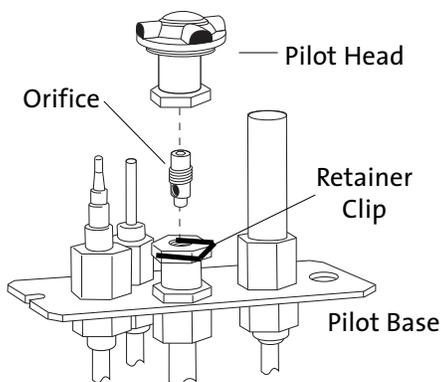

Figure 20. Pilot orifice removal and replacement.
- 8 CHANGE THE PILOT ORIFICE: From within the firebox, remove the Pilot Head by pulling it straight up from the pilot base. See fig. 20.
9. Tighten orifice into the base of the pilot assembly. To prevent bypass leaks, be sure the orifice is secured tightly and flush with the base. Replace pilot head by pushing it down onto the pilot base. See fig. 20.